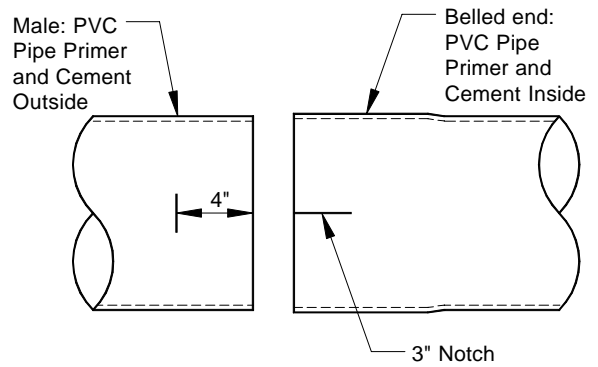

Figure 4
- 6) Cut a 3" notch on one side of the belled end of the pipe to allow the male to slide in easier. Put a mark on the male pipe 4" from the end. **See Figure 4.** **NOTE: may not need to cut if temperature is above 85-90°. Can slide pipe up to bell.**
- 8) Position first 2 sections of pipe in Pipe Support Brackets. Prior to assembly apply a generous amount of PVC cement to the inside of the belled end, and the outside of the male end. **See Figure 4.**